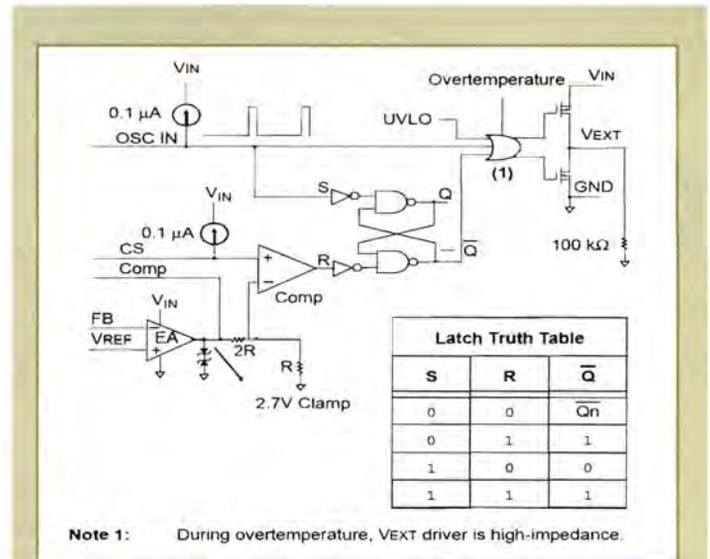

Figure 4: MCP1630 high-speed PWM
The block diagram for the MCP1630 high-speed PWM driver is shown in Figure 4. One of the features of the MCP1630 is the ability to perform current limiting. As shown in the bottom left corner of the diagram, the output of the Error Amplifier (EA) is limited by a 2.7V clamp. Therefore, regardless of the actual error, the input to the negative terminal of the comparator (labeled Comp) is limited to $2.7V \div 3$ or 0.9V.